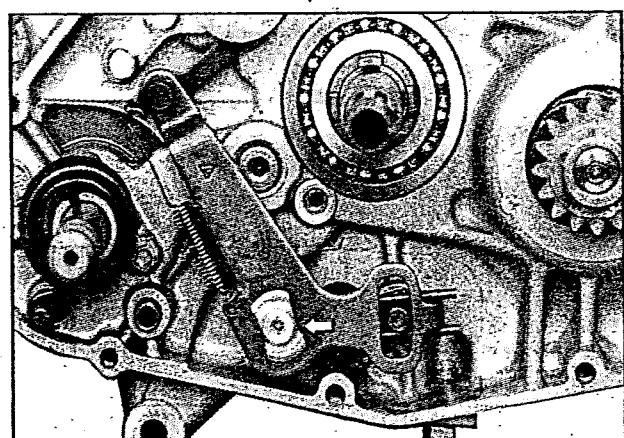

Fig 3.27
- Take off the gear shift arm assembly (fig 3.27)